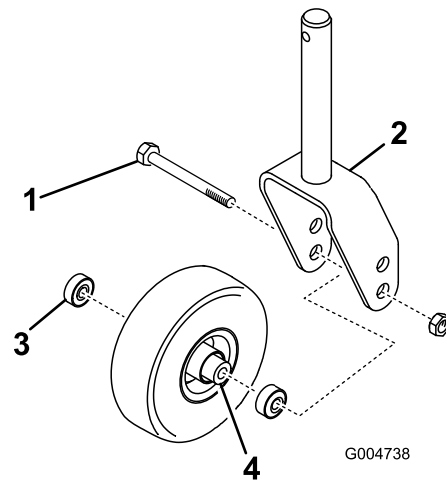

Figure 28
- Remove the locknut from the bolt holding the castor wheel assembly between the castor fork (Figure 28). Grasp the castor wheel and slide the bolt out of the fork or pivot arm.
- Remove the bearing from the wheel hub and allow the bearing spacer to fall out (Figure 28). Remove the bearing from the opposite side of the wheel hub.